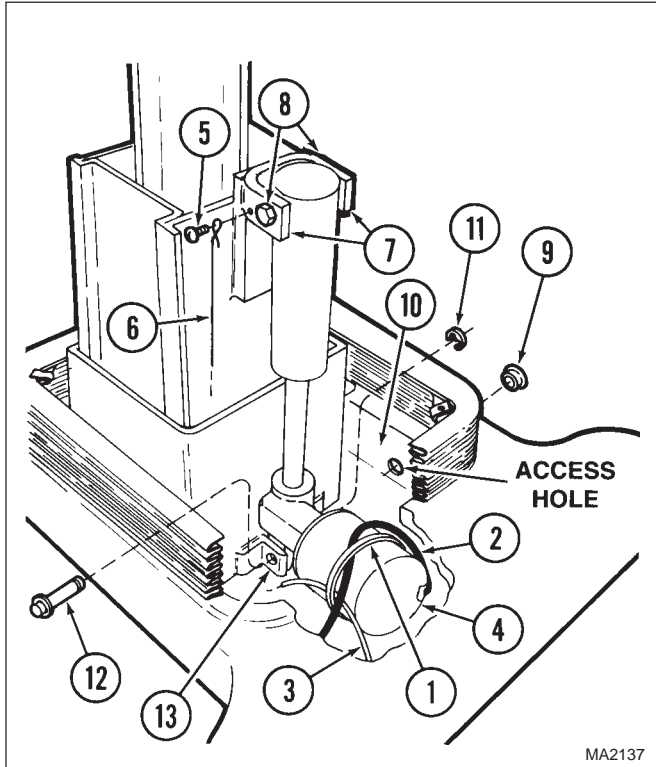

Figure 4-11. Base Actuator Removal / Installation
- (11) Discharge the base capacitor (2).
- (12) Disconnect two wires (4) from terminals of base capacitor (2).
- (13) Disconnect base actuator wire harness (6) from connector (5).
- (14) Feed the base actuator wire harness (6) thru wire hole and into the base of the surgery table.
- (15) Cut cable tie (1, Figure 4-11) securing base actuator wire harness (2) and base transducer wire harness (3) to motor housing of base actuator (4).
- (16) Remove screw (5) and cable assembly (6) from middle slide (7).
- (1) Position the base actuator (4, Figure 4-11) inside the base of the surgery table.
- (14) Install the cable assembly (6, Figure 4-11) on middle slide (7) and secure with screw (5).